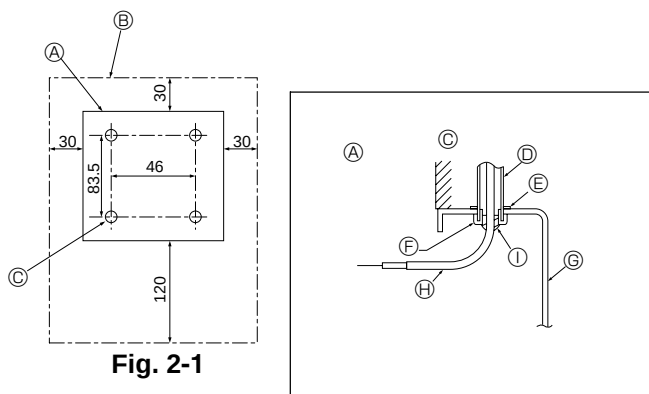

Fig. 2-1
(1) Select an installing position for the remote controller. (Fig. 2-1)
[Fig.2-1]